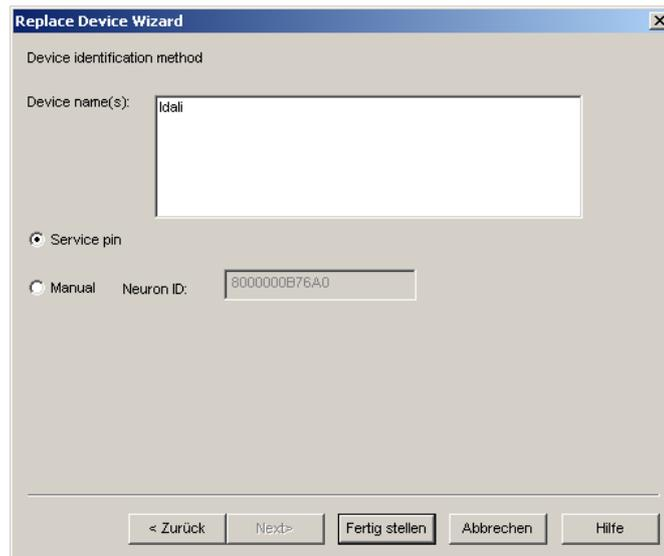

Figure 137: Select Service Pin and click Finish.
6. Select the **Service pin** method and click on **Finish** as shown in Figure 137.